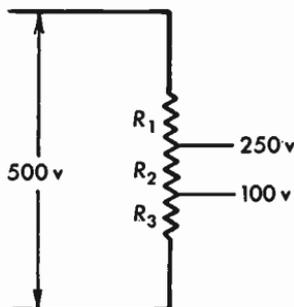

Fig. 2.15 Voltage divider with negligible current drain from taps.
2.15 Find the value of the resistors of the voltage divider in Figure 2.15 for negligible current drain by the load, and a current drain of 7.5 milliamperes by the bleeder.